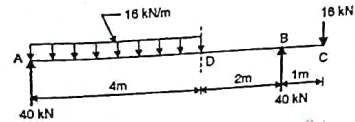

Figure 05
C) A beam ABCD has an internal hinge at B and is loaded shown in figure 05. Plot shear force and bending moment diagrams and locate point of contra flexure. (CO4) 6